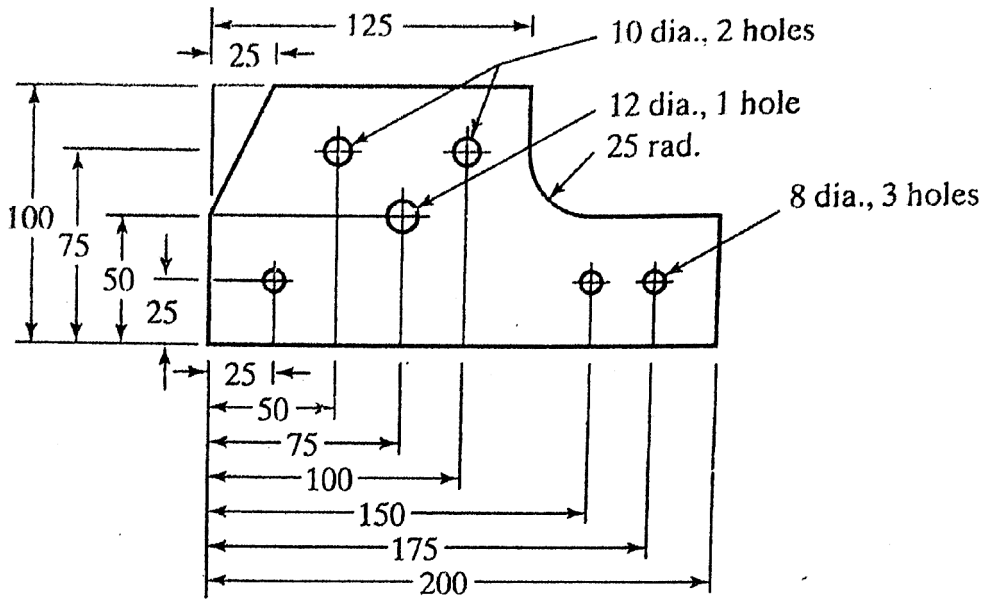

Fig.1
- b) Discuss working principle of ECM process with necessary equations (10)
7. The part in below Fig.1 is to be drilled on a turret type drill press. The part is 15.0 mm thick. There are three drill sizes to be used: 8 mm, 10 mm, 12 mm. These drills are to be specified in the part program by tool turret positions T01, T02 and T03. All tooling is high speed steel. Cutting speed=75 mm/min and feed=0.08mm/rev. Use the lower left corner of the part as origin in the x-y axis system. Write the part program in the word address format using absolute positioning. All the dimensions in Fig. are in mm. (20)